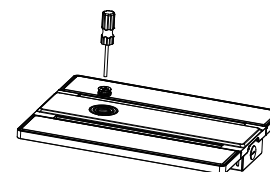

Figure 9
Step1. Use a screwdriver to remove the 1/2 plug from the sensor;(Figure 9)